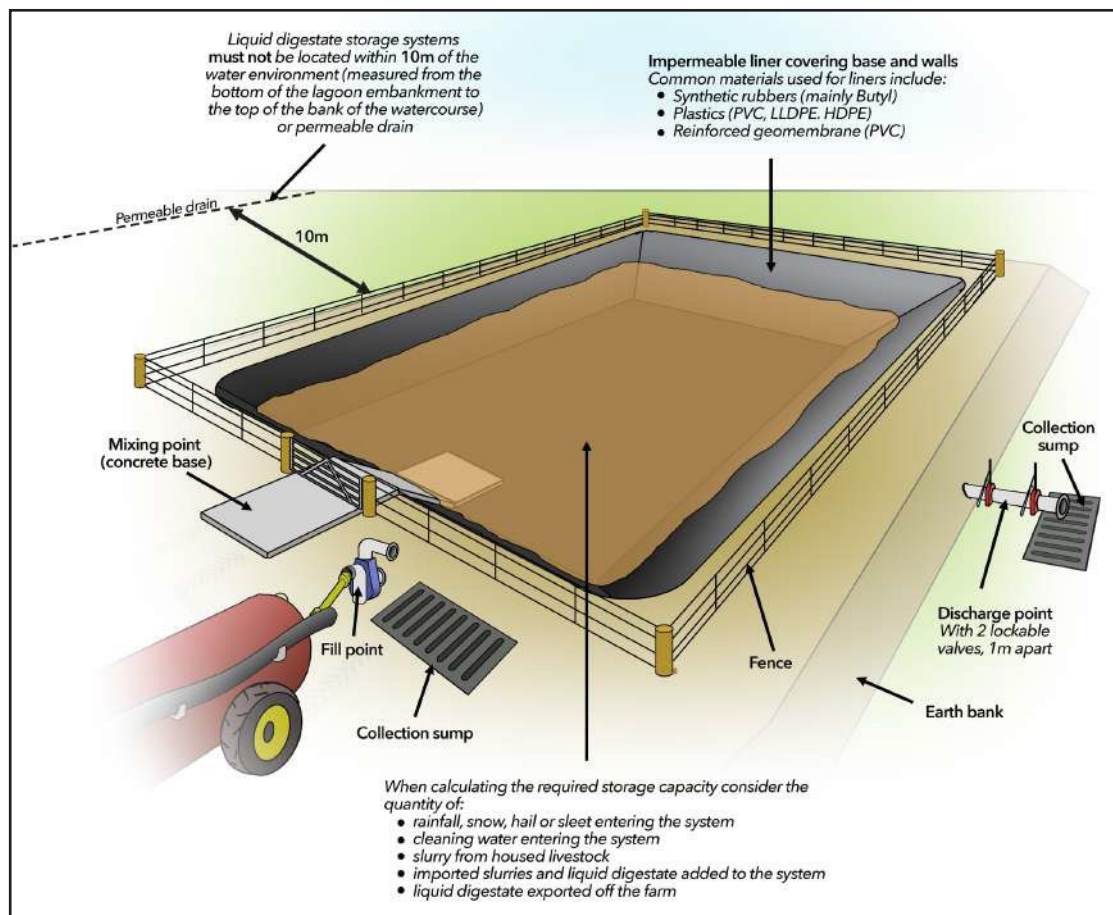

Figure 17.1 Anaerobic digestate storage lagoon.
Farms which produce and /or store liquid anaerobic digestate (AD) on farm **must** have adequate storage facilities and management in place (Figure 17.1).